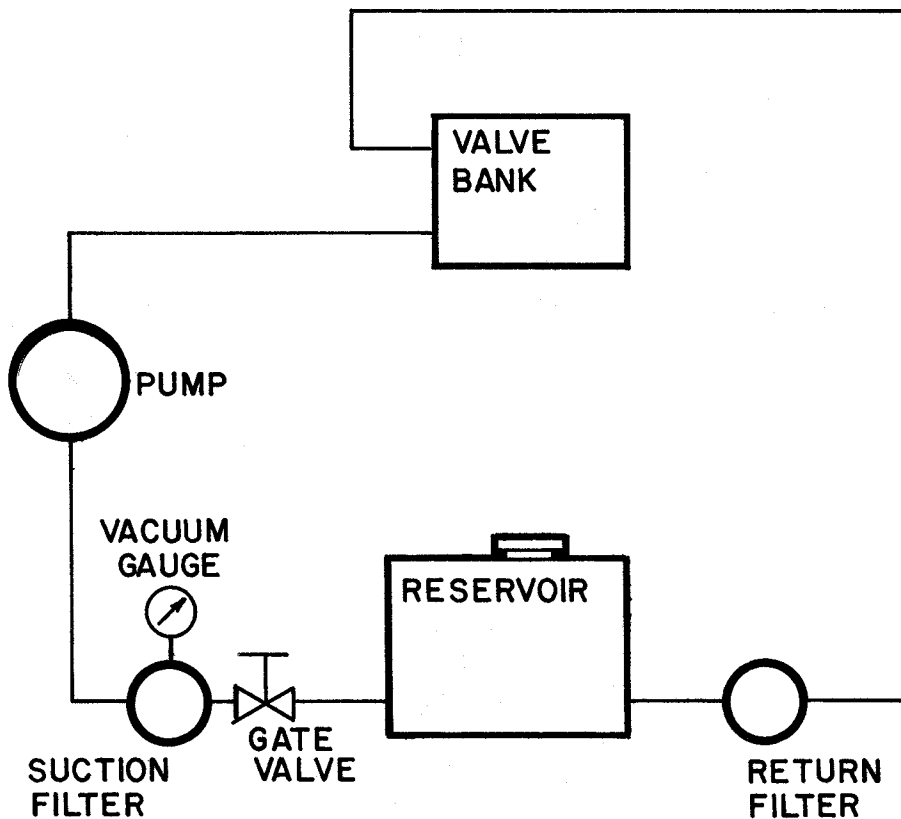

Figure C-2. Hydraulic Installation
1. Plumb the suction line filter as shown in Figure C-2.